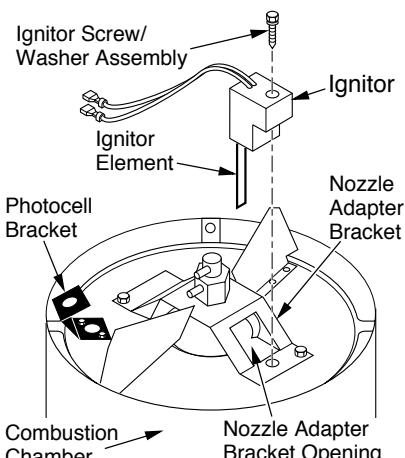

**Figure 19 - Disconnecting Ignitor Wires from Ignition Control Assembly (40/55/60/70/110/115/155/165 Models Shown)**
4. Disconnect ignitor wires from ignition control assembly (see Figure 19, page 12). Pull the ignitor wires up through the hole in the lower shell.
5. Disconnect fuel line hose and air line hose. Remove photocell from photocell bracket (see Figure 19, page 12).
11. Route the ignitor wires back down through the hole in the lower shell. Connect wires to the ignition control assembly (see Figure 19).